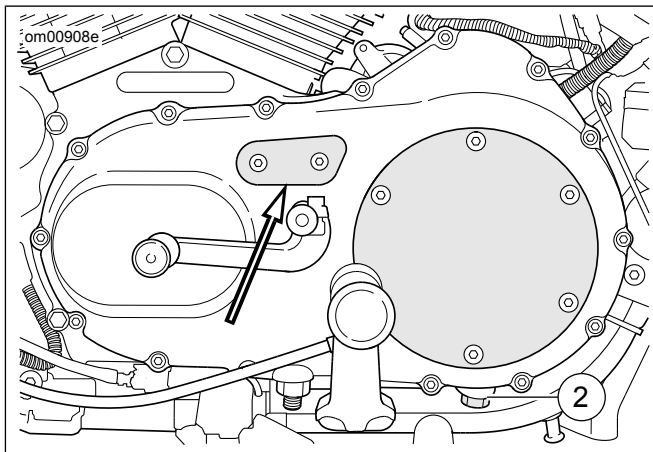

Figure 49. Primary Chain Inspection Cover
2. See Figure 49. Remove the two screws and the primary chain inspection cover.